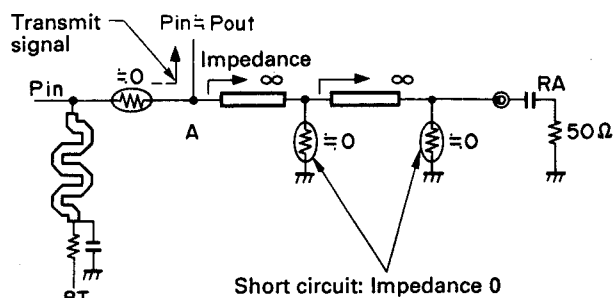

Fig. 20 Equivalent Circuit during Transmission
Figure 20 shows the equivalent circuit during transmission. A current flows through each diode using 8T. The impedance becomes very low. At that time, the receiver side uses a $\lambda/4$ strip circuit. Therefore, the impedance becomes very high when the receiver side is viewed from point (A). The voltage from a power module is transferred to the antenna.